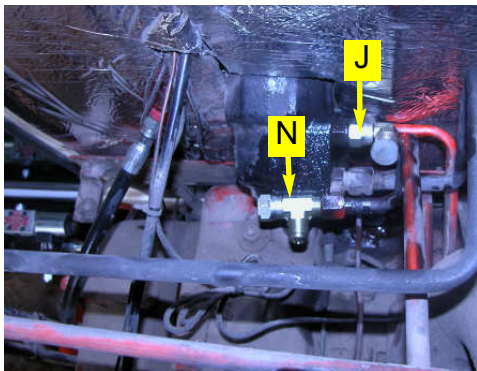

Figure 3c. Elbow fitting and run tee installed to orbital and on the tank line.
- c. Install the elbow fitting (**J**) to the orbital and the run tee (**N**) to the tank line as shown. (Figure 3c.)